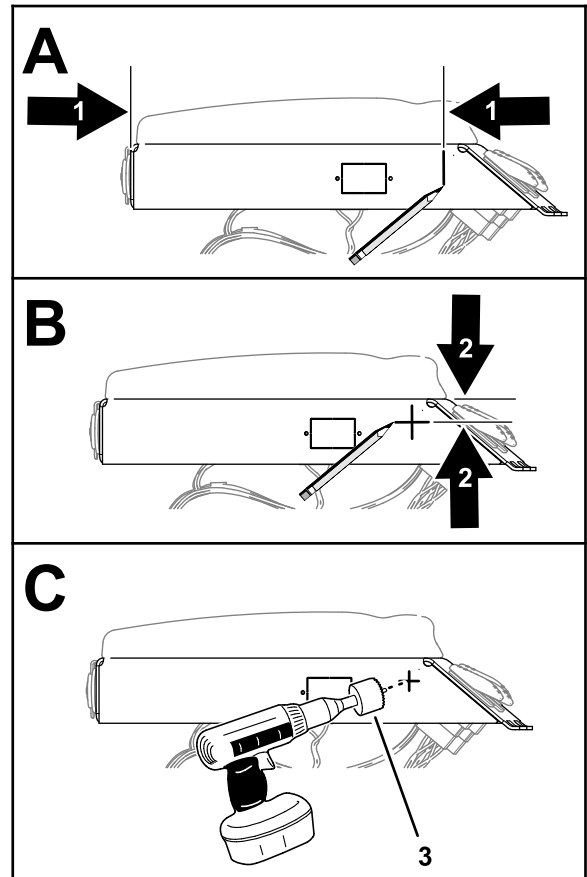

Figure 58
1. Measure 260 mm (10-1/4 inches) from the back end of the arm panel, and mark the panel (Figure 58).
2. Measure 35 mm (1-3/8 inches) from the top of the arm panel, and mark the panel (Figure 58).
5. Drill a 17 mm (11/16 inch) hole in the arm panel at the centerpunch mark (Figure 58).